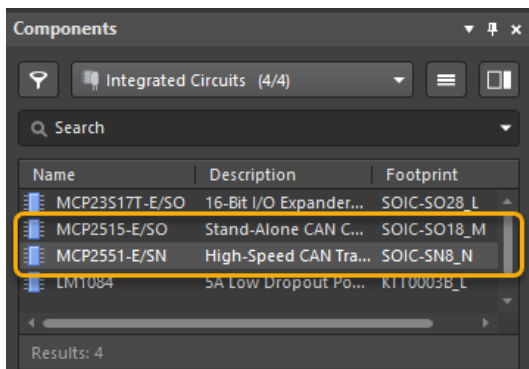
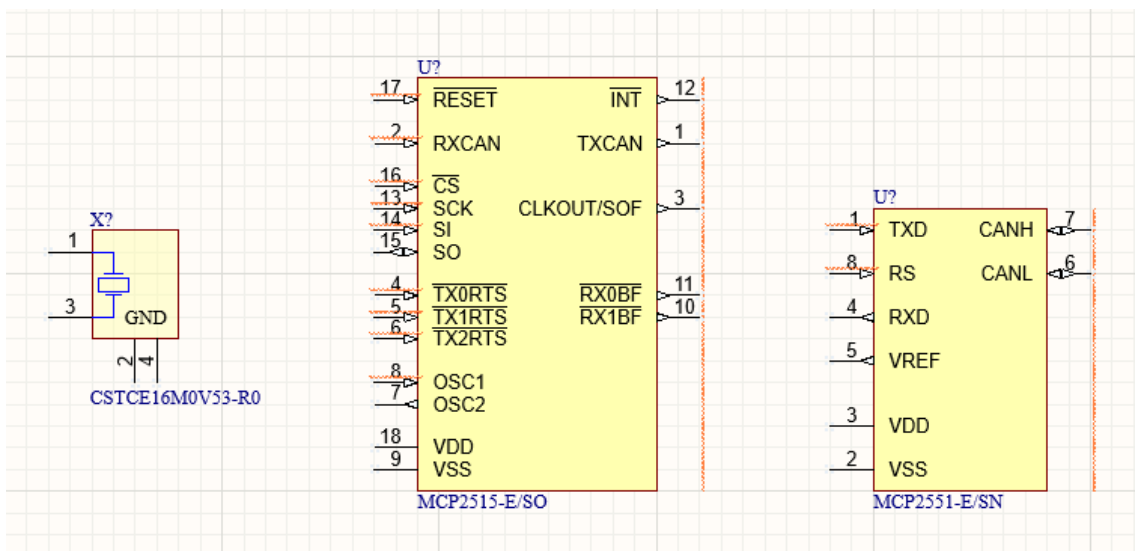

Figure 12. Integrated Circuits
Figure 13. CAN_Interface Schematic
Next let's place some components for the CAN_Interface, as shown in Figure 13.
26. From the integrated Section, see Figure 12, place the following components, as shown in Figure 13.